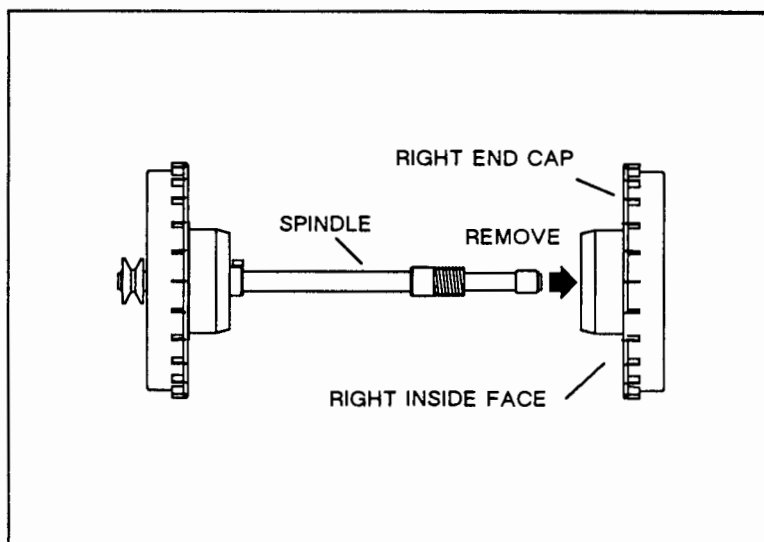

Figure 2-18. Spool End Cap Removal
- e. Remove the right End Cap of the spool by unscrewing it. See Figure 2-18. (The spool was removed from the print engine during the procedure titled PRINT ENGINE INSTALLATION)